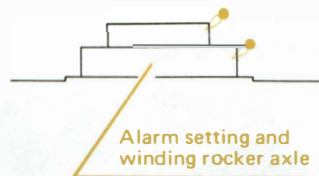

Fig. 9
- (1) Oil the axle of alarm setting and winding rocker with Synt-V-Lube. (Fig. 9)